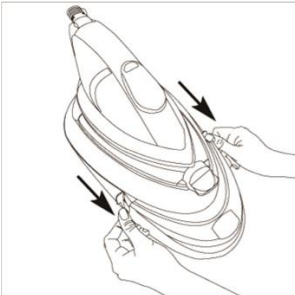

Figure 2
2. Pull the water tank out (Figure 2).